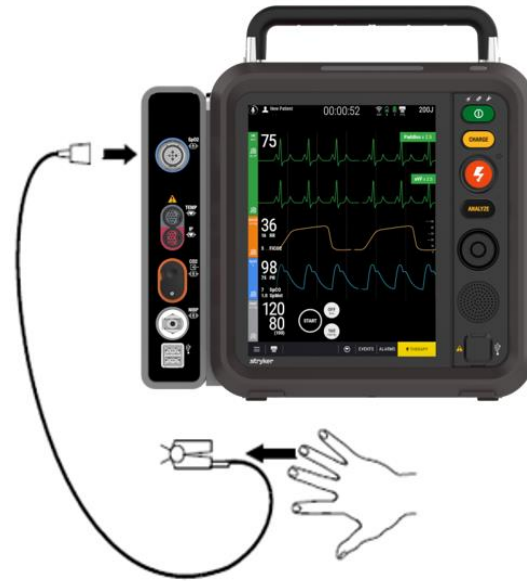

Figure 17
4. Place your Index finger into the oximeter finger probe. Ensure the red flashing emitter is placed on top of the fingernail as the sensor sends wavelengths of light from the emitter to the receiving detector as shown in the following Figure 17.